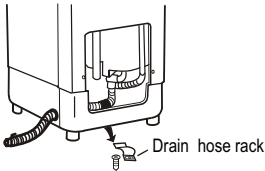
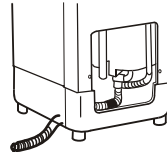

Figure 1
Figure 2
- 2、Take off the drain hose frame. Put down the drain hose. Take off the drain hose rack. As indicated in Figure 1, Pull the drain hose into the cabinet from the left side of the bottom (as figure 2).